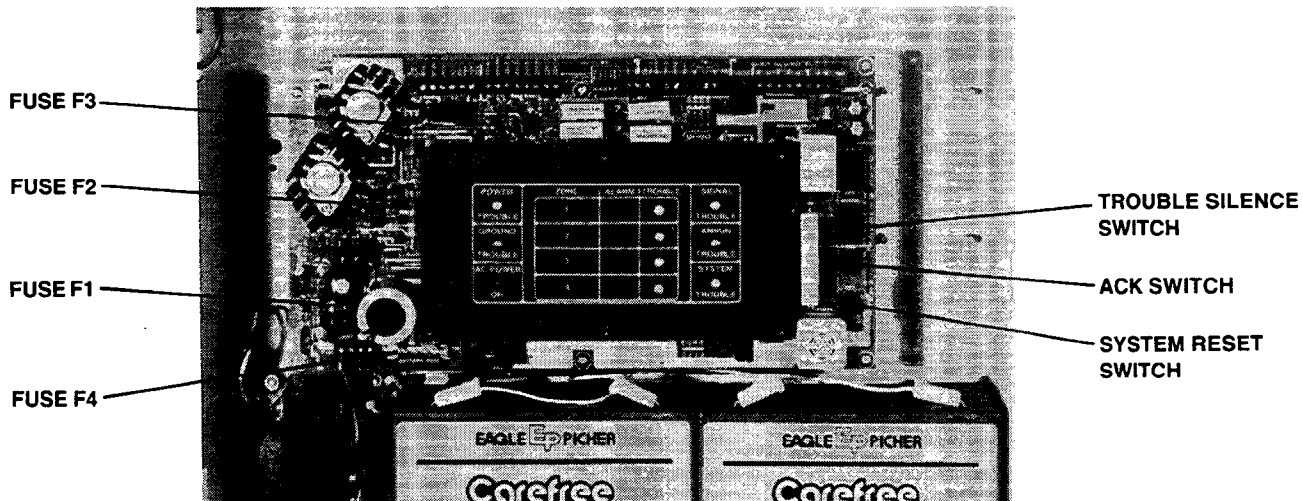

FIGURE 27
2. At large circuit board, check fuses (Fig. 27) and at building's power distribution, check system circuit breaker or fuse.
3. Apply system power and press SYSTEM RESET switch (Fig. 27). Observe panel indicators: